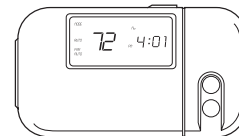

Fig. 1 - Thermostat/Unit Controller
Step 1 — Set room thermostat/unit controller to the lowest temperature setting and set the SYSTEM switch to HEAT or AUTO position. See Fig. 1.